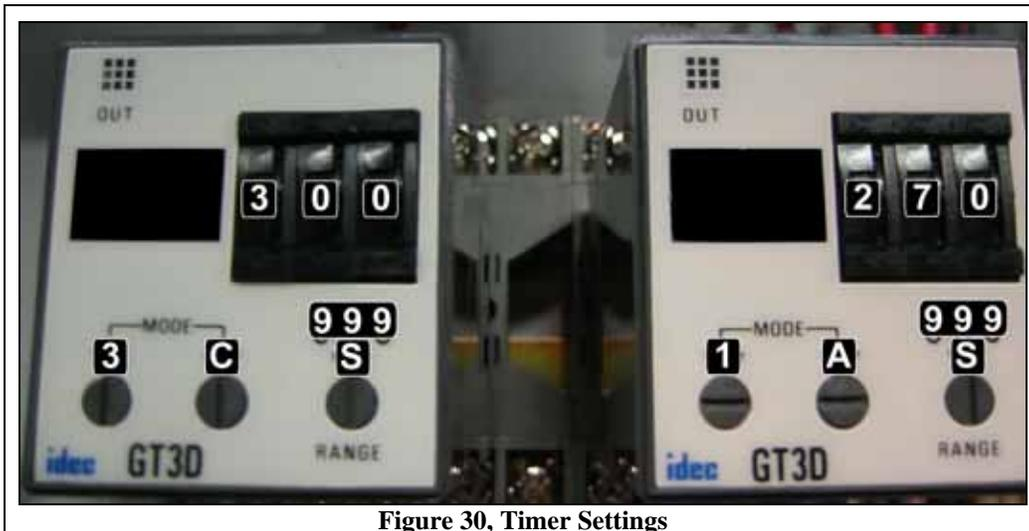

Figure 30, Timer Settings
Step 6) The timers TR1 and TR2 must be configured to these settings only. Any other values will prevent the equipment from running. If different from Figure 30 use a small screwdriver to adjust the values.